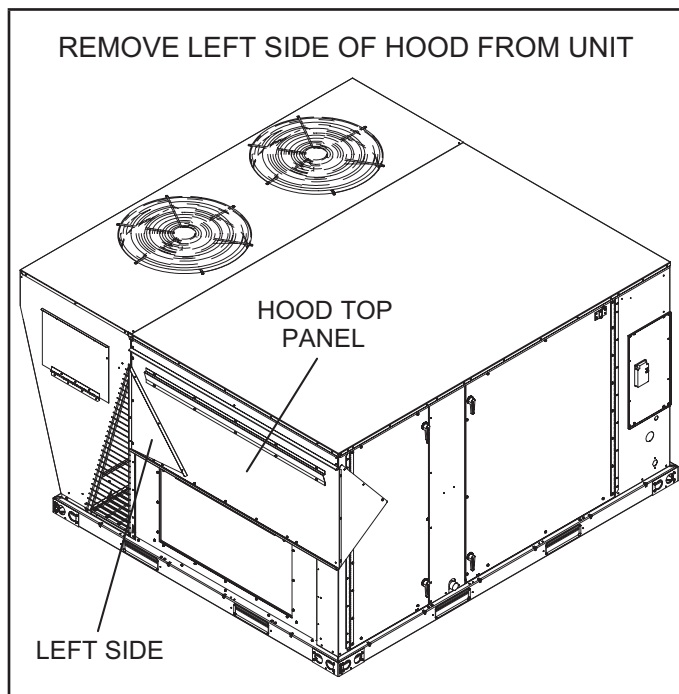

FIGURE 11
- 1 - Remove left side from hood top panel. See FIGURE 11.